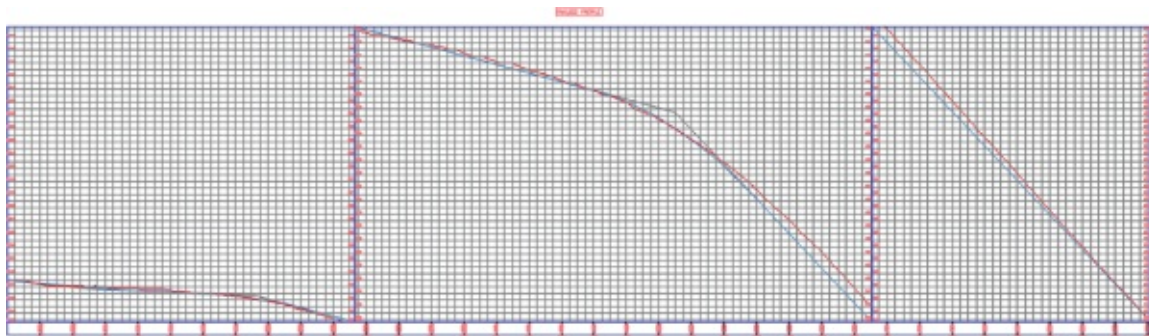

Figure 7.41 A staggered (stepped) split : profile view created via the wizard
7. Click the Create Profile View button and pick a point onscreen to draw the staggered display, as shown in Figure 7.41.